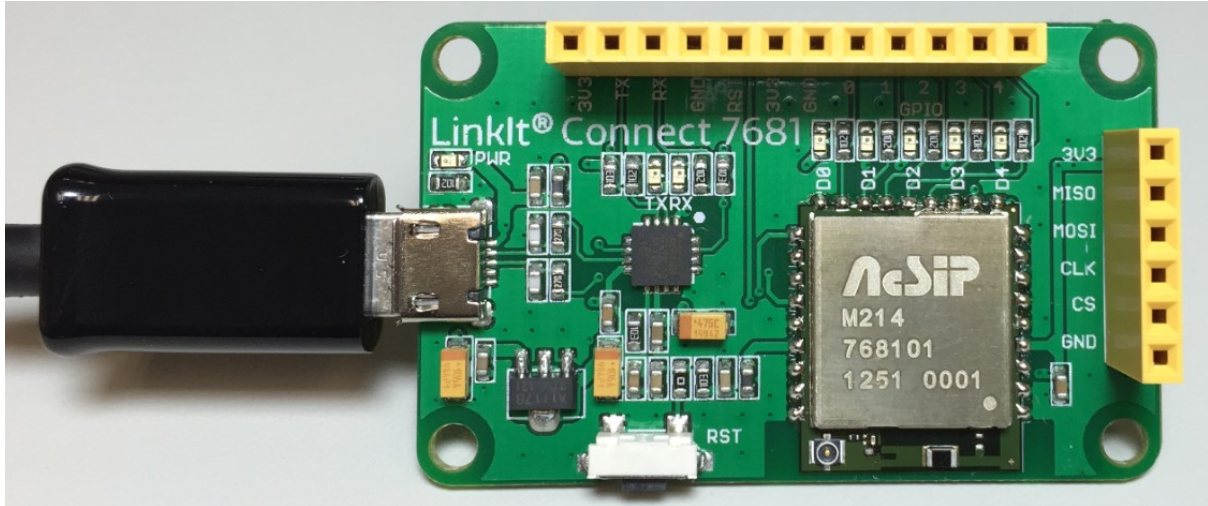

Figure 17 Connect the LinkIt Connect 7681 development board to a USB cable
- 1) connect the LinkIt Connect 7681 development board to your computer using a USB cable, as shown in Figure 17.